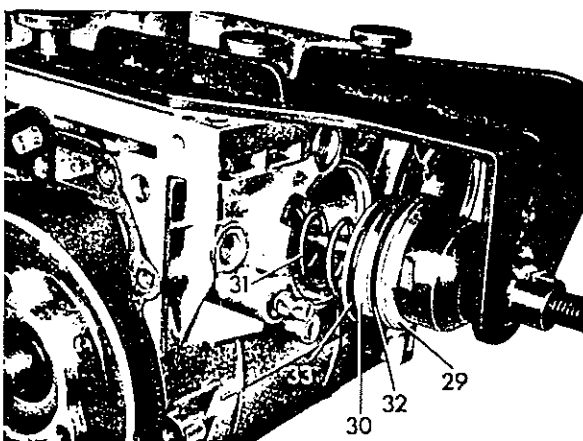

Fig. 51
34 Mount assembly fixture for the brake band piston B 1. Mount brake band piston B 1 (30) with a new lip seal ring (33) and compression spring (31). Mount brake band piston cover B 1 (29) with a new O-ring (32) and install by using assembly fixture **Fig. 51**